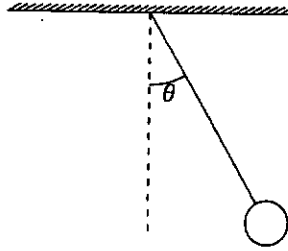

Figure 3: Figure for Q7a.
- Q7. (a) The motion of a pendulum of length  $l$ , as shown in Figure 3, is given by [6 marks]